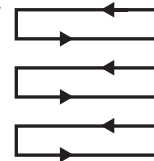

Fig. 19
5. Mow in slight overlapping rows. The most effective pattern for mowing lawns is straight lines along one of the sides. This will keep the rows even and ensures that all the lawn is cut without missing any spots (Fig. 19).
8. Empty the grass catcher (23) regularly.